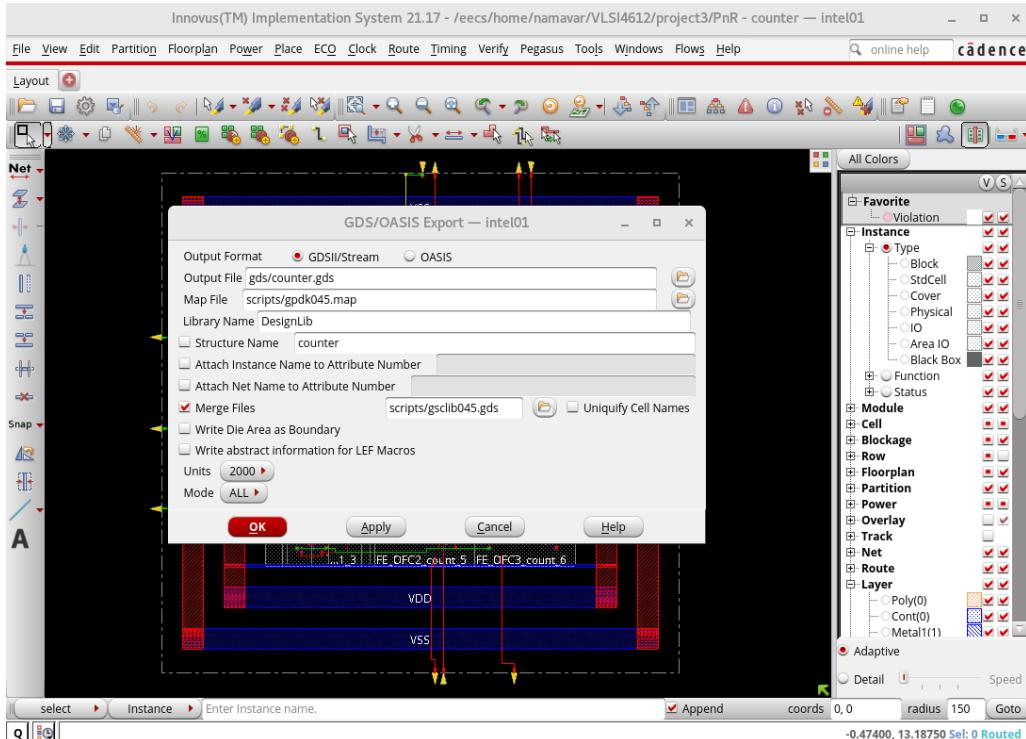

Figure 30: Specifying the output file, selecting the proper map file, and enabling the merge files option for GDS export.
4. In the **Map File** section, browse and select the appropriate map file as shown in Figure 30.